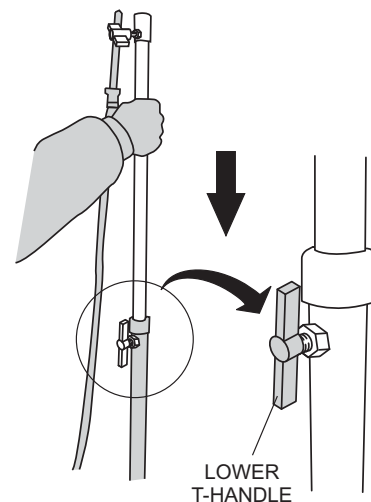

Figure 19. Lowering the Mast
1. Loosen the lower T-handle by turning handle counterclockwise (Figure 19). Push down on mast until mast is fully inserted into mast housing. Tighten T-handle fully.